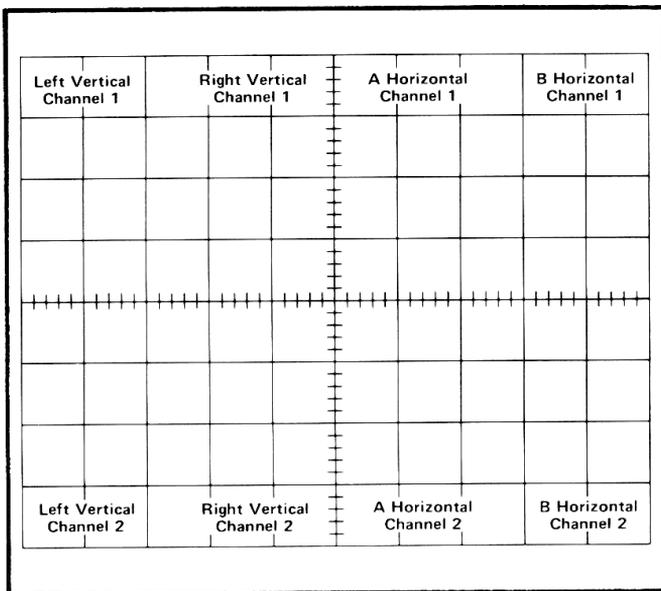
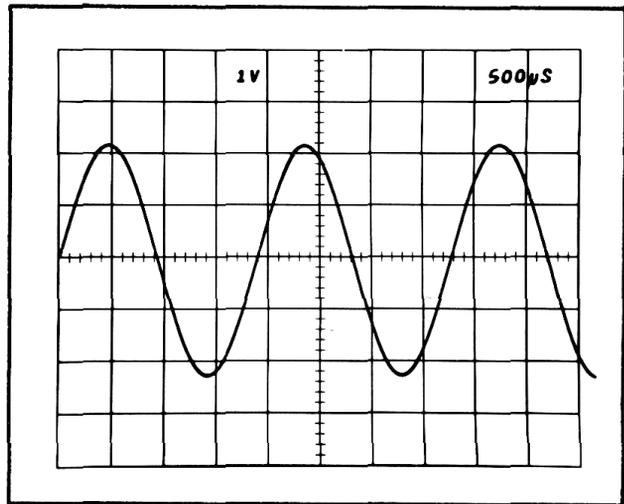

Fig. 3-36. Location of readout words on the CRT identifying the originating plug-in and channel (one complete frame shown).
Fig. 3-38. Typical readout display where only channel 1 of the Right Vertical and B Horizontal units are displayed.
**Frame**—A frame is a display of all words for a given operating mode and plug-in combination. Up to eight words can be displayed in one frame. Fig. 3-36 shows one complete frame and the position at which each of the eight words is displayed.
**Display Format.** Up to eight words of readout information can be displayed on the Type 7504 CRT. The position of each word is fixed and is directly related to the plug-in unit from which it originated. Fig. 3-36 shows the area of the graticule where the readout from each plug-in unit is displayed. Notice that channel 1 of each plug-in unit is displayed within the top division of the CRT and channel 2 is displayed directly below within the bottom division. Fig. 3-38 shows a typical display where only channel 1 of the Right Vertical unit and the B Horizontal unit are selected for display.
The Format Generator stage provides the output signals to the vertical and horizontal deflection systems of the instrument to produce the character display. The binary channel address code from the Channel Counter stage is connected to this stage so that the display from each channel is positioned to the area of the CRT which is associated with the plug-in and channel originating the word (see Fig. 3-36). The positioning current or decimal point location current generated by the Decimal Point Logic and Character Position Counter stage is added to the horizontal (X) signal at the input to the Format Generator stage to provide horizontal positioning of the characters within each word. The X- and Y-output signals are connected to the Horizontal Amplifier and Vertical Amplifier through the Horizontal Output and Vertical Output stages respectively.